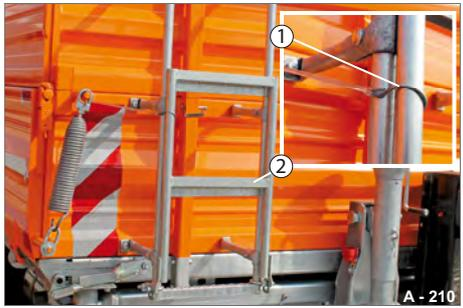

Fig. 224 Securing the access ladder
- Hook the securing hook (Fig. 224/1) around the foldable part (Fig. 224/2). The foldable part is secured.